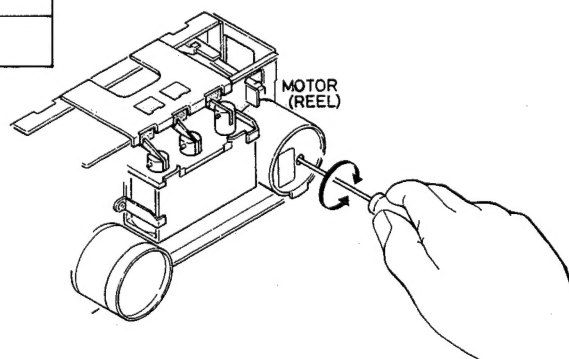

Fig. 2
- Turn semifixed variable resistor for adjusting tape speed by using a screwdriver (about 2 mm wide) as shown in the sketch until the counter reads within 2980 to 3000 Hz. (Fig. 2)